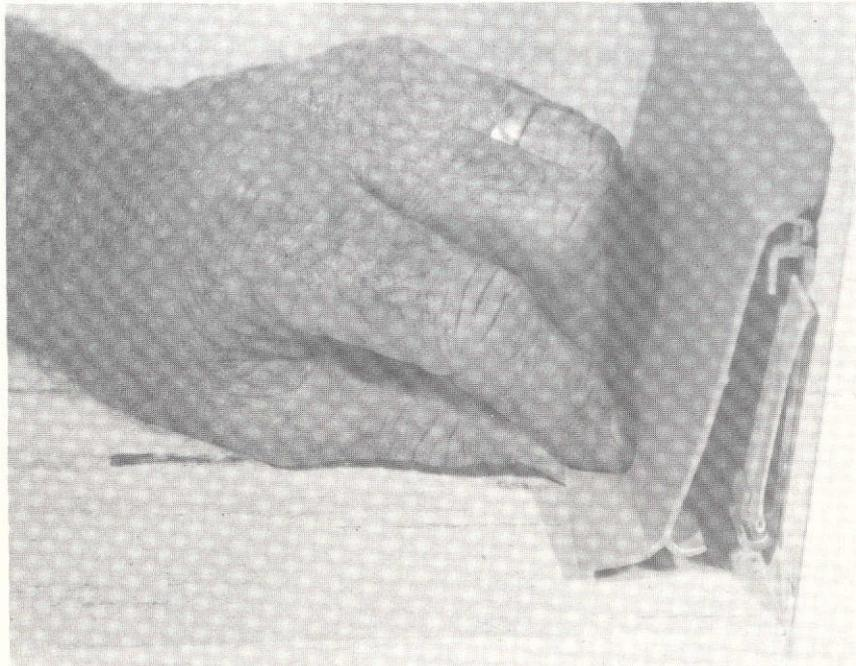

Figure 20. Snapping Front Cover to Back Channel
3. Snap front cover to back channel as shown in Figure 20. This is done by inserting the top flange of the front cover against the wall and slightly above the back channel.